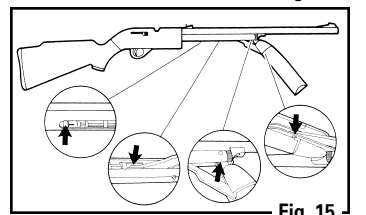

Fig. 15
- Your air rifle will work best if you oil it every 250 shots. Put 2 or 3 drops of Crosman 0241 Lubricating Oil on the pump pivot pins and the pump cup in the pump mechanism (Fig. 15). A light coat of Crosman 0241 Lubricating Oil on all exposed metal parts helps prevent rust. DO NOT use a petroleum distillate based oil or solvent and DO NOT over-oil as this can cause damage to your air rifle.